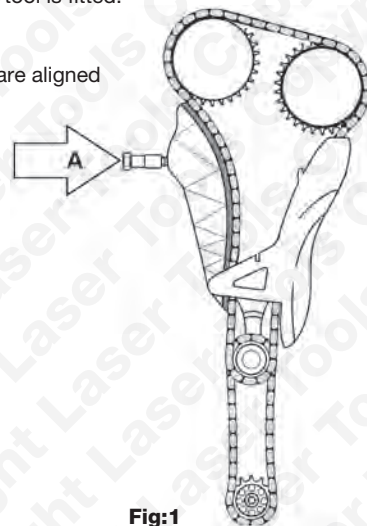

Fig:1
1. Remove the timing chain tensioner and washer from the engine. Fig:1.